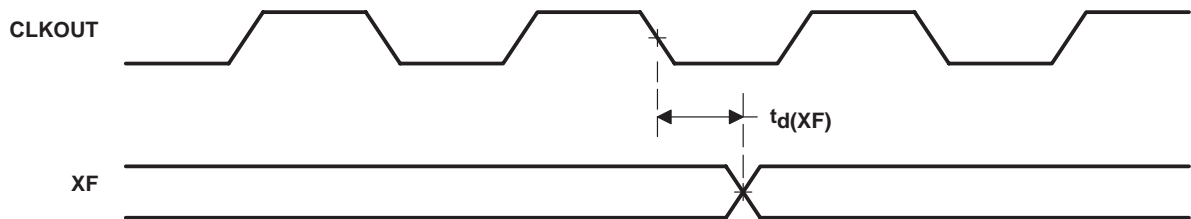
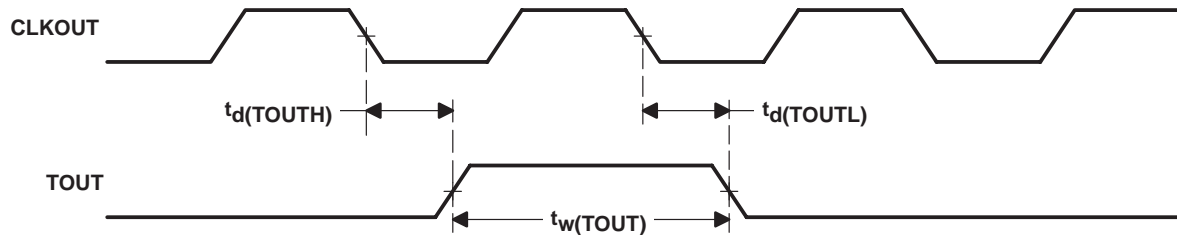

Figure 30. External Flag (XF) Timing
Figure 31. TOUT Timing
switching characteristics over recommended operating conditions for external flag (XF) and TOUT [H = 0.5  $t_c(\text{CO})$ ] (see Figure 30 and Figure 31)